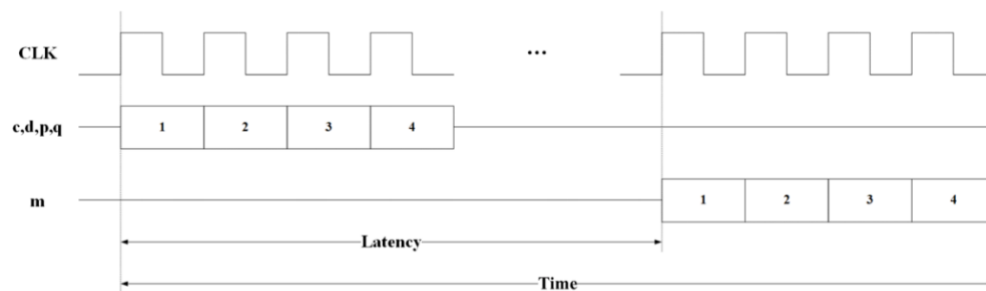

Figure 4: Time Latency Graph
- c) Fill in the table given below after running your script. All the input patterns are given. Here the time is defined as the time when all outputs are generated as in Figure 4.